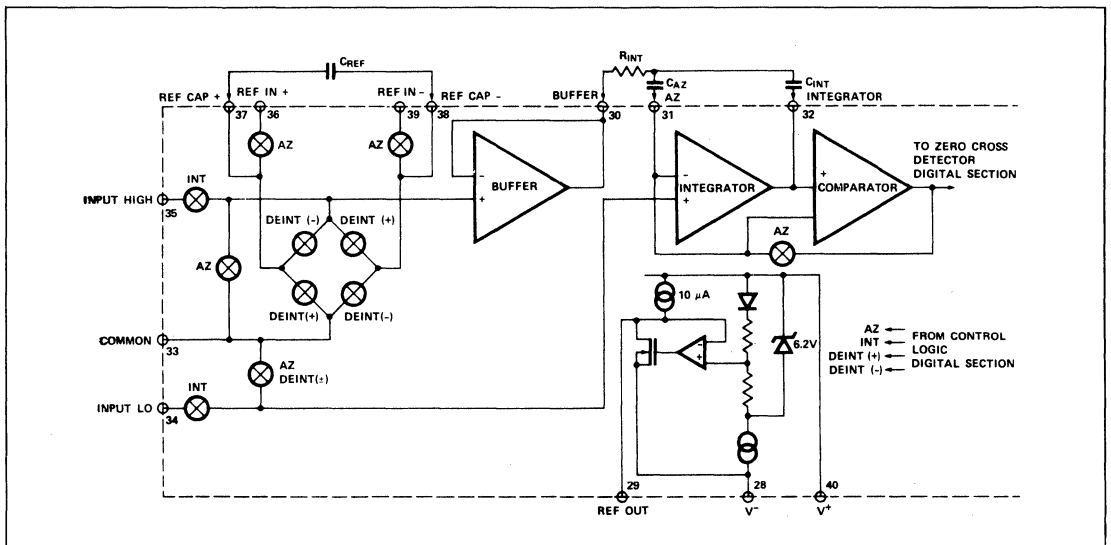

Figure 2: Analog Section
Figure 2 shows a block diagram of the Analog Section of the TSC7109. The circuit will perform conversions at a rate determined by the clock frequency (8192 clock periods per cycle), when the RUN/HOLD input is left open or connected to V⁺. Each measurement cycle is divided into three phases as shown in Figure 3. They are: (1) Auto-Zero (AZ), (2) Signal Integrate (INT), (3) Reference Deintegrate (DE).